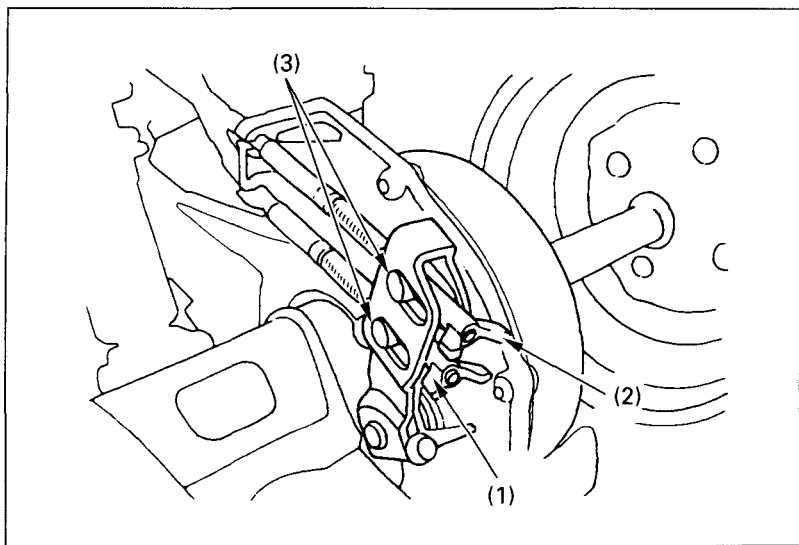

Fig. 4-27      (1) Brake pedal adjusting nut      (3) Brake arm pins
(1) Rear brake pedal
To adjust the free play, turn the brake pedal adjusting nut (1), (Fig. 4-27), located on the brake operating rod at the rear of the frame. Make sure the cut-out on the adjusting nut is properly seated on the brake arm pin (3).
To adjust the free play, turn the brake lever adjusting nut (2 ), (Fig. 4-27 ), located on the brake operating rod at the rear of the frame. Make sure the cut-out on the adjusting nut is properly seated on the brake arm pin (3 ).